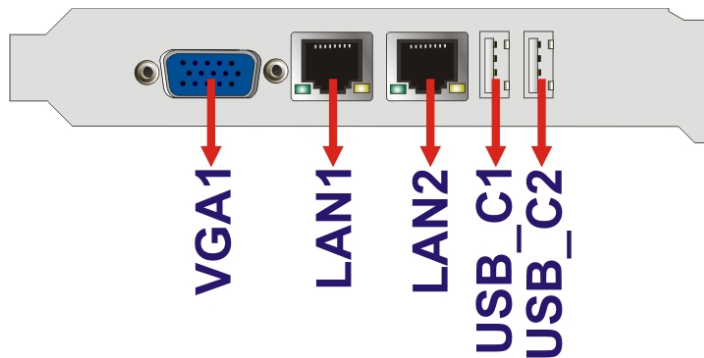

Figure 3-22: External Peripheral Interface Connector
- CN Location:** See **Figure 3-22**
CN Location: See **Figure 3-22**